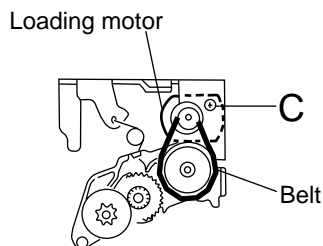

Fig.5
■ Removing the heat sink (See Fig.5)